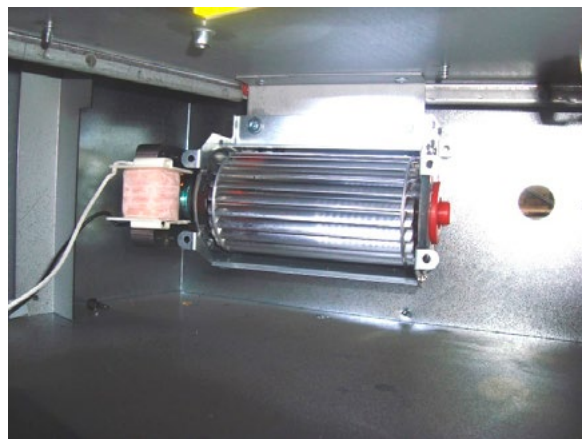

Figure 5 Install right fan to bracket
3. Install the right fan as shown in **Figure 5** to the bracket underneath the firebox using the screws supplied (motor should be oriented towards the back side of the fireplace).